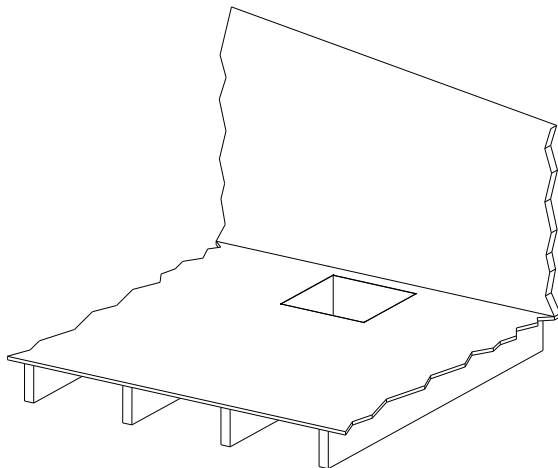

Fig. 1 – Floor Cutout Dimensions
1. Cut a hole in the floor where the unit will be located. See Fig. 1 and the floor cutout dimensions table.